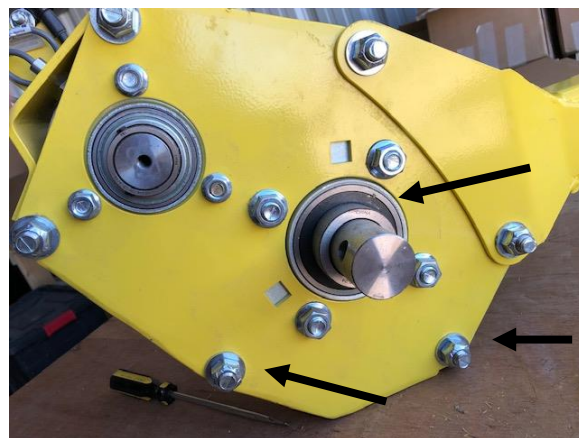

Figure 252
4. To disassemble the gearbox remove all the bolts that hold the covers to the gearbox. Figure 252